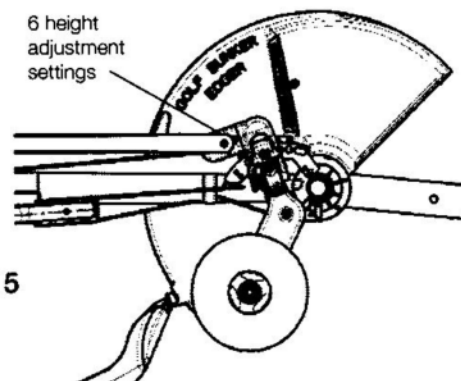

FIG 15
1. As you edge around the bunker, you will have to adjust the height adjustment according to the depth of the bunker. There are 6 numbered height settings (see Fig 15).